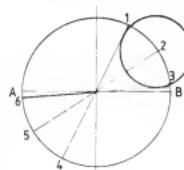
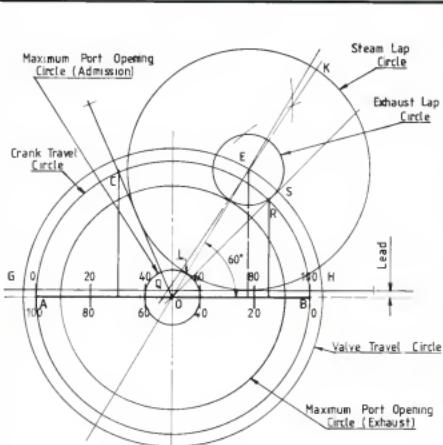
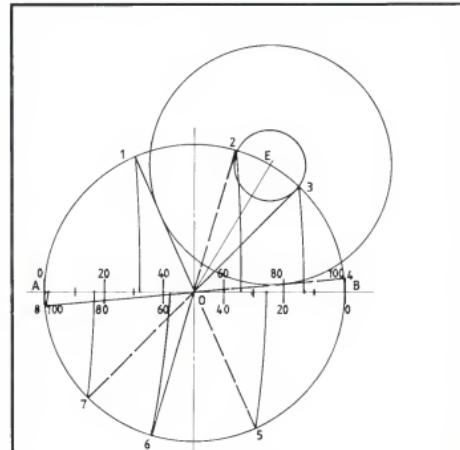

Fig. 6c
Fig. 7a
Fig. 7b
6. *Valve Event Timing.* The valve events of cut-off, release, compression and admission occur at the crank angles at which the valve has just closed or just about to open the cylinder ports (i.e. the valve opening is zero). Thus the crank positions for these points must be when PL and PE equal zero. This occurs when the crank angle positions are tangent to the steam lap circle or passes through E for the exhaust controlled functions. Figure 6c shows the diagram with
TABLE 1 VALVE EVENT TIMING (Fig. 6c)
1. **Crank Angles.** Bilgram's diagram is based on crank angles at the valve events, not percentages of piston travel, thus the specified percentages need to be converted to crank angles. In Figure 7a, a circle to represent the crank rotation with centre O is drawn with a diameter AB chosen so that it is readily divided into 10 equal parts, hence AB with $\frac{1}{4}$ " divisions is 2½ inches. Assuming that the connecting rod is of infinite length, vertical lines at right angles to AB are drawn at the 30% and 85% travel points for the inward stroke. The intersections of these lines with the crank circle are identified C and R respectively as shown in the Figure. The lines OC and OR give the nominal crank angles for cut-off and release. Figure 6c shows that the steam lap circle is tangential to the crank angle OC.
2. **Maximum Port Opening.** It is seen in Figure 6b that the maximum port opening is the distance from the centre of the valve travel circle which will be drawn later with centre O, to the lap circle. A scale for the Bilgram's diagram has now to be chosen so as the data is fractional Imperial, let's try $\frac{1}{16} \times 4$; this may be found too small for accuracy or too large for the drafting facilities — it can be changed if unsuitable. A circle designated the maximum valve opening circle is drawn with centre O and radius equal to the scaled maximum valve opening, i.e. $\frac{1}{16} \times 4 = \frac{1}{4}$ " radius — see Figure 7a. The steam lap circle touches this valve opening circle.
3. **Lead Line.** Figure 6b shows that the lead is the distance from the engine centre line (AB) to a line drawn parallel to this tangent to the steam lap circle. In Figure 7a line GH is drawn parallel to AB and at a distance equal to the scaled lead (i.e. $\frac{1}{64}'' \times 4 = \frac{1}{16}''$) from AB. This is the lead line and the steam lap circle will be tangential to it.
4. **Steam Lap Circle.** In Figure 7a there are now three boundaries to which the steam lap circle must be tangential, i.e. the cut-off crank angle line OC, the maximum port opening circle and the lead line GH. By trial and error methods the centre of the lap circle and its radius can be found. This is assisted if the angle between CO and GH (angle COH in Figure 7a) is bisected using normal geometrical construction as indicated. The centre of the lap circle (point E) lies along this bisecting line and a radius for the steam lap circle can soon be found so that this circle is tangential to OC and GH and touches the valve opening circle. Scaling the radius of this circle gives the steam lap required for the valve, i.e. 1.12 inches divided by 4 equals 0.28 inches lap.
5. *Valve Travel and Angle of Advance.* The required valve travel is the scaled diameter of the circle drawn with centre O and radius OE, i.e. $(1\frac{3}{8}'' \times 2) + 4 = 1\frac{1}{16}''$. The required angle of advance is angle EOB measured from Figure 7a as 60 degrees.
6. *Exhaust Lap.* In Figure 7a as the crank position at the release line OR is not along the line OE, zero exhaust lap will not give release at 85% stroke as required. As the crank position OE is at approximately 77% stroke, i.e. earlier than required, positive exhaust lap as shown Figure 1b is required to delay the exhaust port opening. With centre E, a circle is drawn to be tangential to OR. The scaled radius of this circle ($3\frac{3}{8}'' + 4 = 3\frac{1}{2}''$) is the required exhaust lap.
7. *Valve Event Timing.* The information required for a Bilgram's diagram as in Exercise 1 has now been found and although the valve event timings for the inward and outward strokes can be extracted from Figure 7a, for clarity Figure 7b has been constructed using only that data necessary for determination of the valve event timings for both strokes. The radius of the template to convert crank angle position to percentage of piston travel is cut to 'n' \times valve travel \times scale of diagram
Table 3 compiled from Figure 7b lists the valve event timings obtained from this exercise. It is seen that those for cut-off and release average close to the nominal requirements.